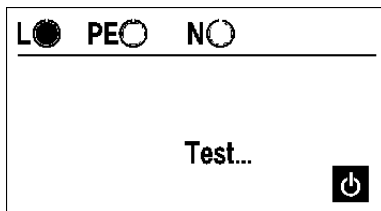

Figure 5.4.7: Test procedure running
- Briefly press the "Start / on" key (22), the test is started. During running measurement, the message 'Test...' is (11) is displayed, please refer to figure 5.4.7.
► Briefly press the "Start / on" key (22), the test is started. During running measurement test, the message 'Test...' is (11) is displayed, please refer to figure 5.4.7.